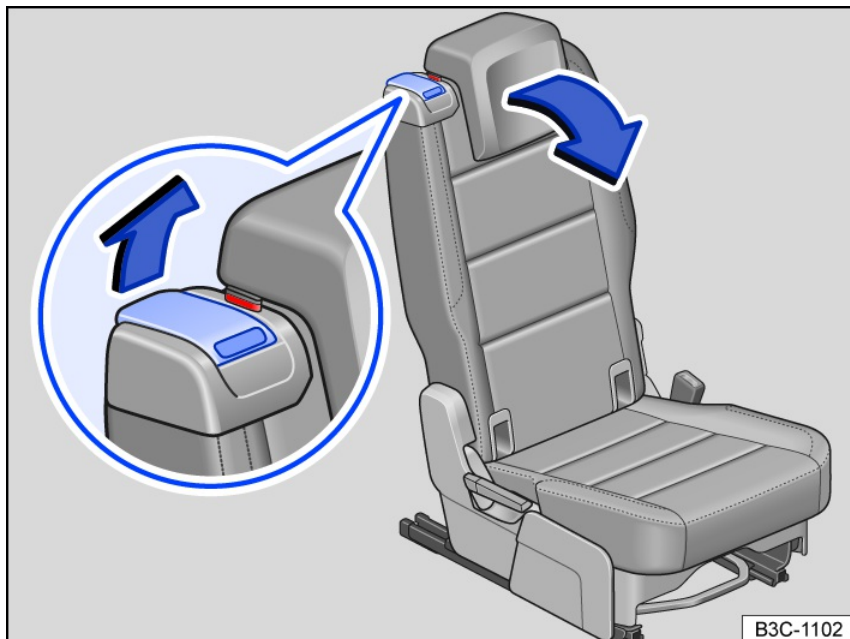

Fig. 87 Second row seats: entry assistance controls.
3. Push the release lever fig. 87 forward in the direction of the arrow until the red marking is fully visible.
2. Pull the release lever fig. 87 and fold the rear seat backrest back into the upright position.
The rear seat must be latched securely. If the red marking on the release lever is still visible fig. 87, the rear seat is not securely engaged.
If the release lever fig. 87 is not working, for example after a collision, the seats in the second row can be folded forward by someone in the third row to make it easier to exit the third row ⇒ ⚠.
- A red marking on the release lever fig. 87 indicates that the rear seat backrest is not latched. The red marking must not be visible when the backrest is latched.